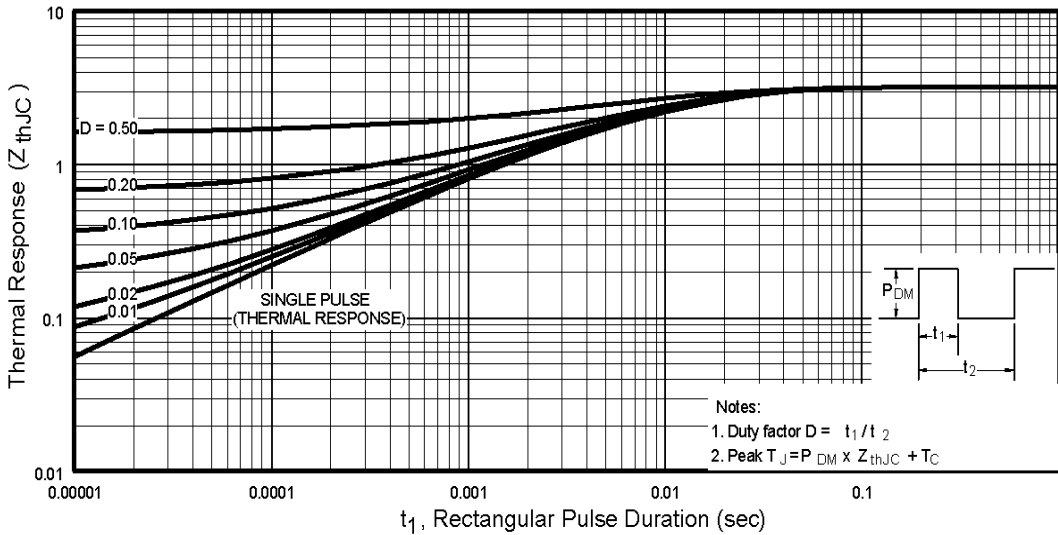

Fig 11. Maximum Effective Transient Thermal Impedance, Junction-to-Case
- ① Repetitive rating; pulse width limited by max. junction temperature. (See fig. 11)
- ② Starting $T_J = 25^\circ\text{C}, L = 18\text{mH}$